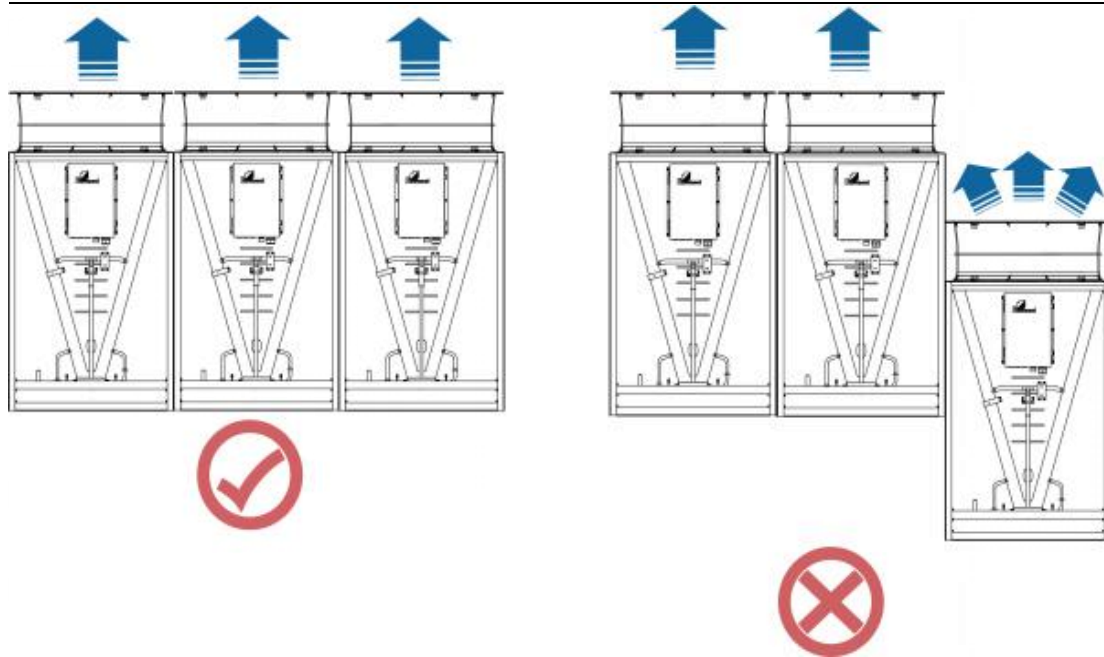

Fig. 2-13 Side-by-side installation layout
- When installed side by side, the condensers should be installed at the same height to avoid short circuit of return air. As shown in Figure 2-13